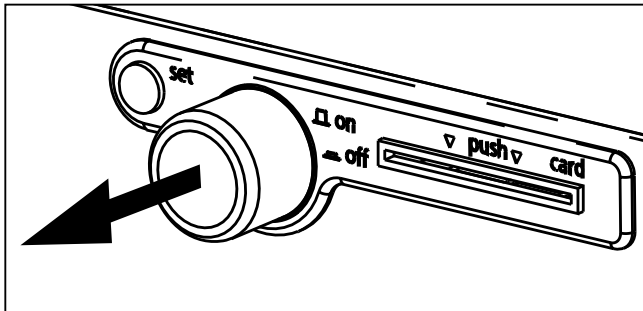

Fig. 18
- ▶ Switching on: press the main switch so that it comes out of the appliance (Fig. 18).
1. Switch on appliance by pressing the main switch (main switch comes out of appliance, see Fig. 18).
- Switch on appliance by pressing the push-turn control on the operating panel so that it comes out of the appliance (Fig. 18).